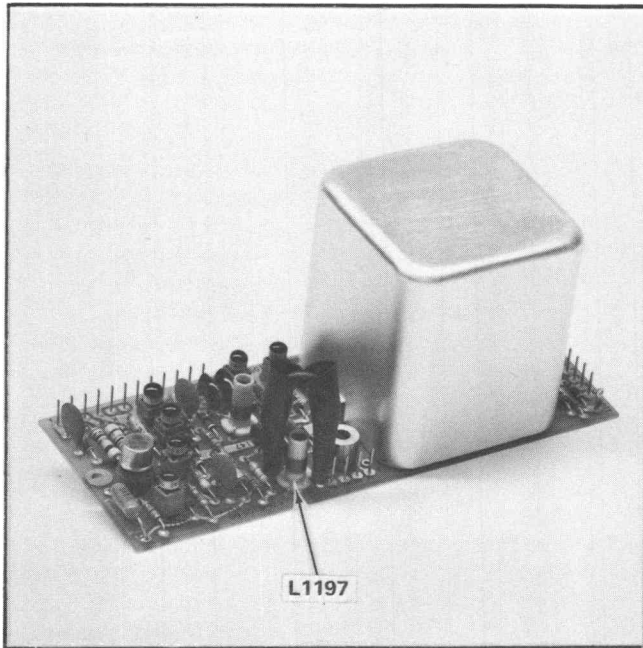

Fig. 5-50. L1197 on the Subcarrier Output board shorted. Used to check subcarrier return loss.
- ai. Using a shorting strap, short L1197 on the Subcarrier Output board (see Fig. 5-50).